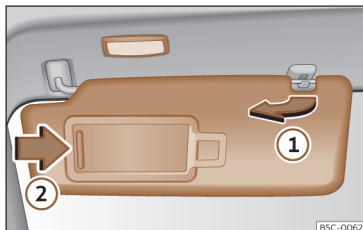

Fig. 109 Sun visor
- The sun visor can be pulled out of its mounting and turned towards the door >>> **Fig. 109 ①**.